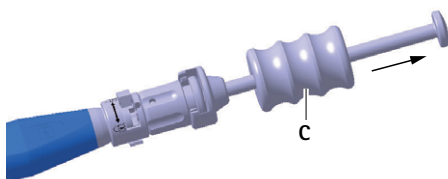

Fig. 6 Expelling the trial implant/implant with the impact cylinder
- Carefully expel the trial implant **D** using the impact cylinder **C** out of the intervertebral space, see Fig. 6.
- ▶ Carefully expel the implant **a** using the impact cylinder **C** out of the intervertebral space, see Fig. 6.